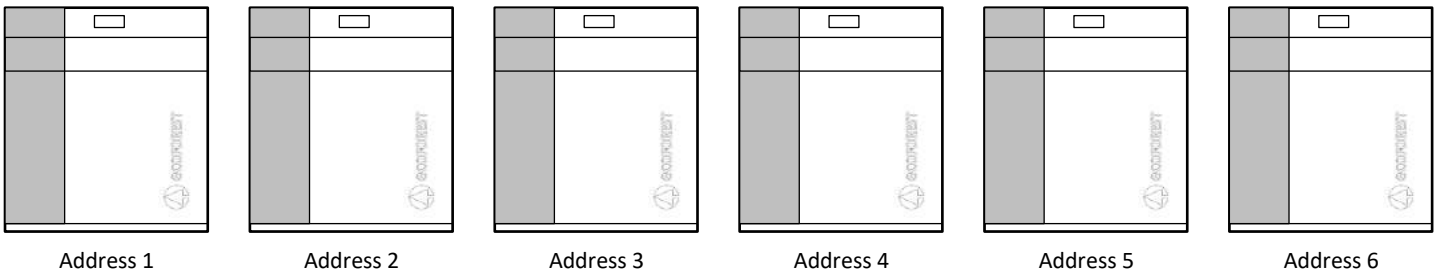

Figure 6.2. Cascade with ecoGEO HP heat pumps with the address related to each heat pump number.
2. Select the unit control address. Address 15 is reserved for supervisor, select between 1 and 6 for each heat pump, select a logical order. Do not repeat address in heat pumps. Please see the sample below in the Figure 6.2.